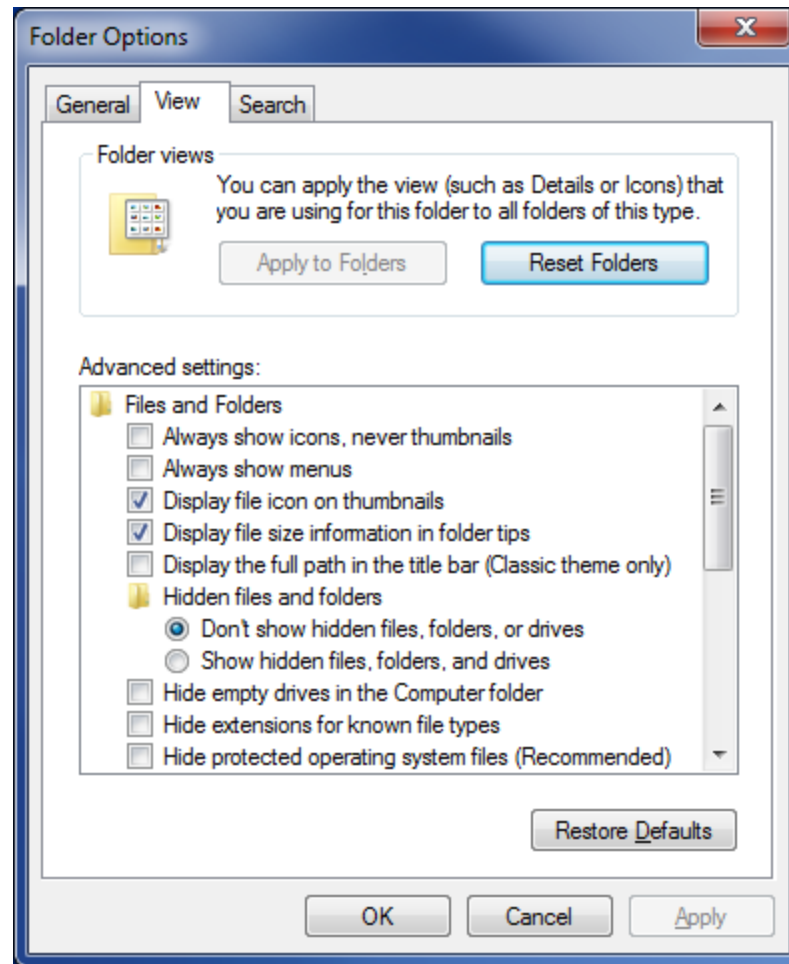

Figure 10 - Folder Options, View tab shown
4. Click on the "View" tab of the Folder Options dialog (see Figure 10).